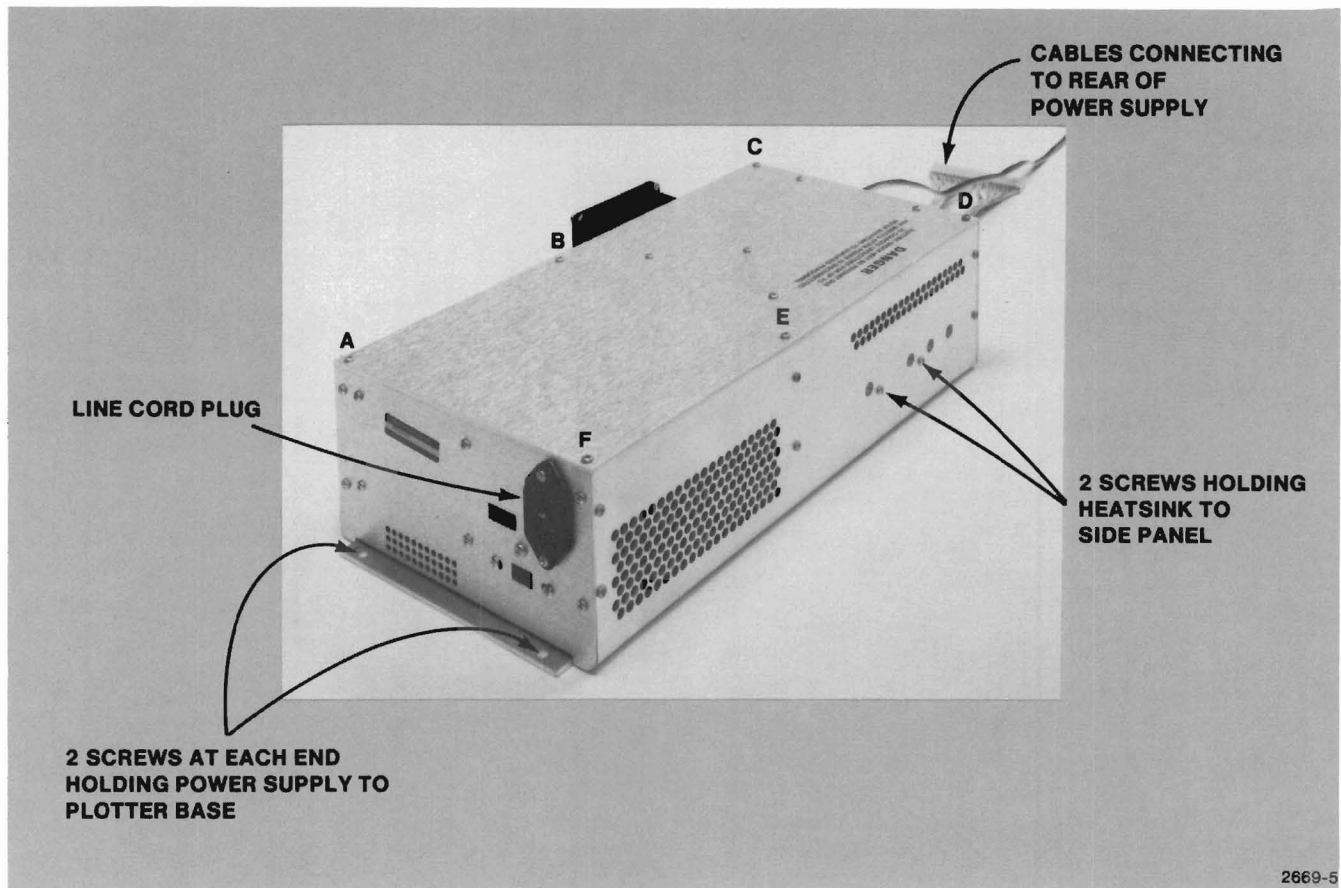

Figure 3-10. Power Supply Module.
2. Disconnect the two cable connectors on the rear and the line cable on the front of the power supply (see Figure 3-10).
3. Remove the four screws that hold the power supply to the base of the Plotter (see Figure 3-10).
5. Remove the six screws, marked A-F in Figure 3-10, that hold the power supply cover.
- Remove the two screws that hold the heatsink against the right side panel of the power supply chassis. These screws are toward the rear and under some vent holes (see Figure 3-10).